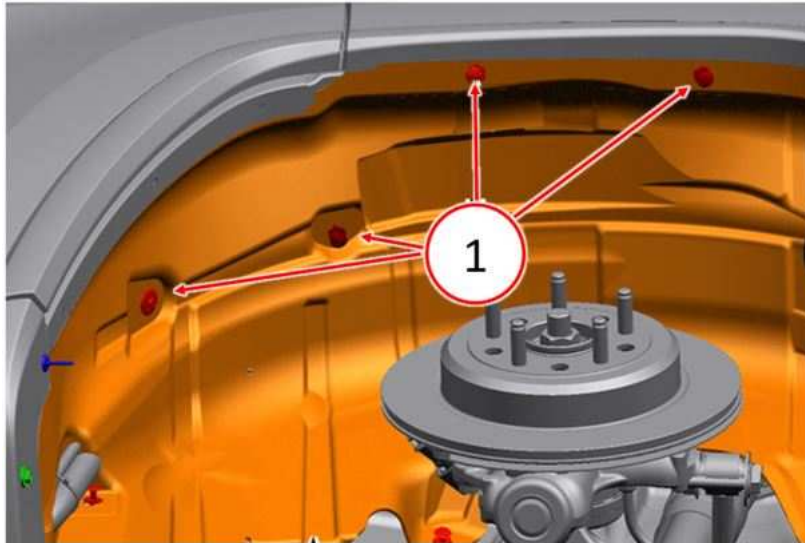

Fig. 1
3. Remove four pushpin retainers at the top of the wheel well (Fig. 1) .